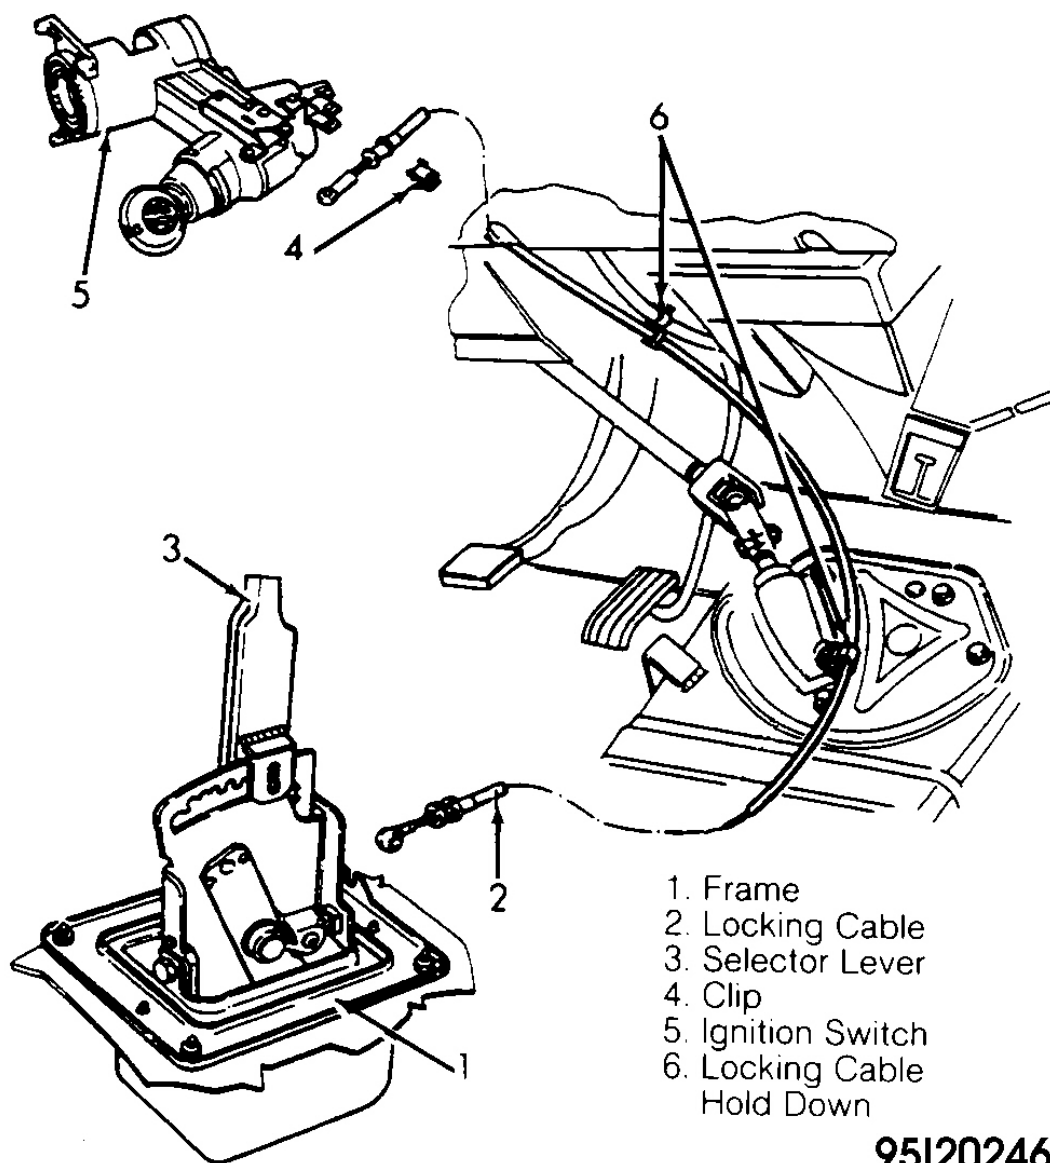

Fig. 18: Removing Shift Lock Cable From Shift Lever Support
3. Remove cable from ball head at ignition assembly. See **Fig. 18** .